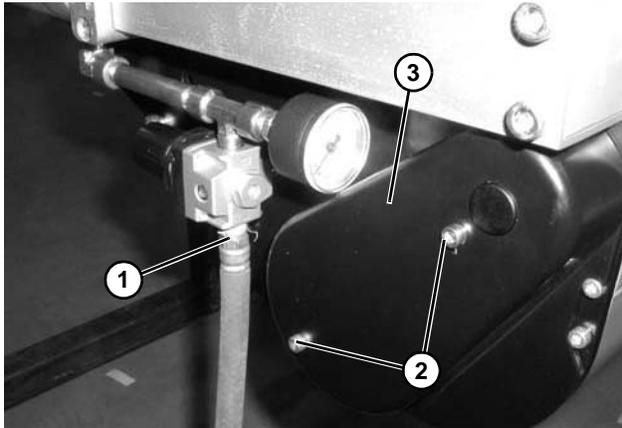

**Figure 129**
9. Reinstall spacer ring (**Figure 129, item 1**) and gearmotor (**Figure 129, item 2**). Tighten screws (**Figure 129, item 1**) to 150 in-lbs (17 N-m).